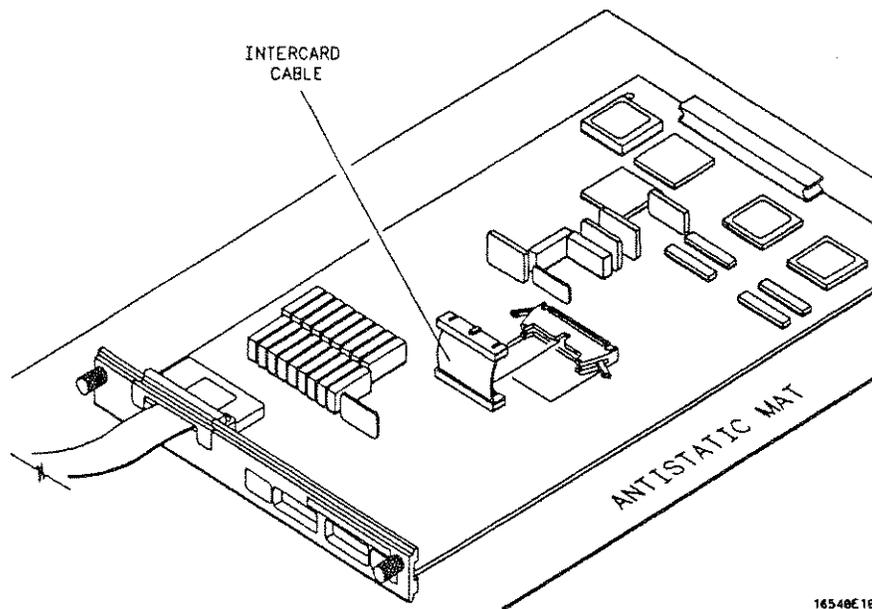

Figure B-3. Intercard Cable
5. Connect the intercard cable to the first card of the module to be installed. See figure B-3. Lay the cable flat and pointing out to the rear of the card. If the module consists of only the master card, an intercard cable is not used.